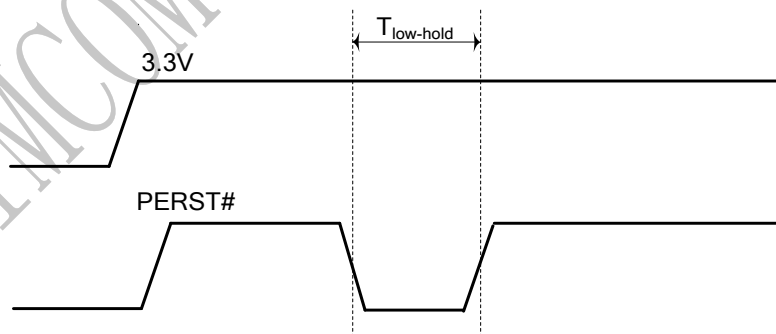

Figure 18: Reset timing
The dimension of the connector on SIM7200 is 2.6*2.6*1.25mm, which is from Hirose, and the part number is U.FL-R-SMT (10), Use KLC-1401 (www.lccable.com) to attach antennas to connection points on the module, as shown in Figure 18, likewise, customer can choose other vendor if the component's size match with U.FL-R-SMT (10).